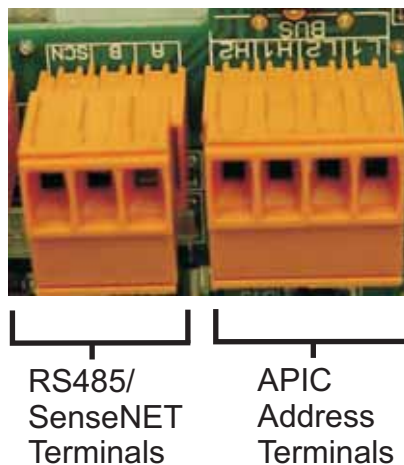

Figure 2-5. APIC Address and RS485/SenseNET Terminals
3. Remove either the three-way terminal block next to the power supply socket (if connecting the detector to a SenseNET™ system) or the four-way “Bus” terminal block (if connecting the detector to an alarm panel in conjunction with the APIC addressable bus card). Refer to Figure 2-5 for an illustration of the terminals and Section 2-13 for details on addressing.